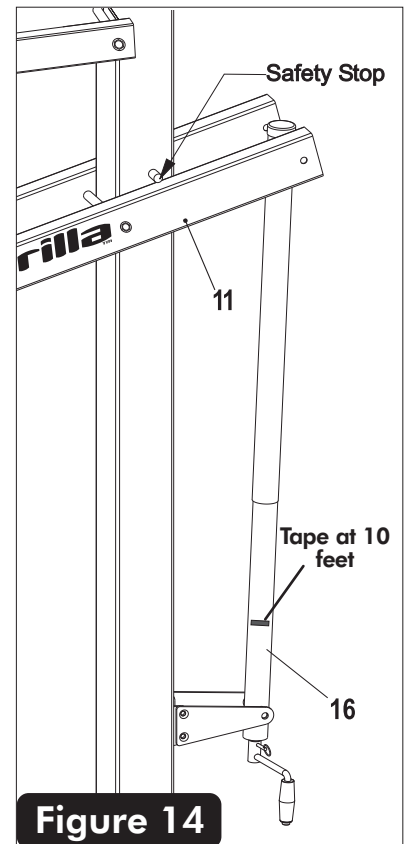

Figure 14
23. Lower backboard all the way down. Do not force actuator once backboard is in it's lowest position. See **Figure 14**.